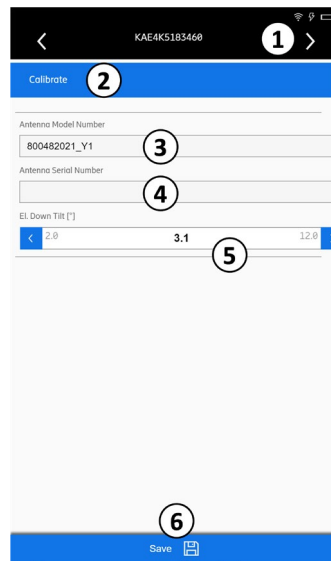

Fig. 61: Devices: Changing settings of the selected subunit
② Opens the settings of the selected subunit, see Fig 61.